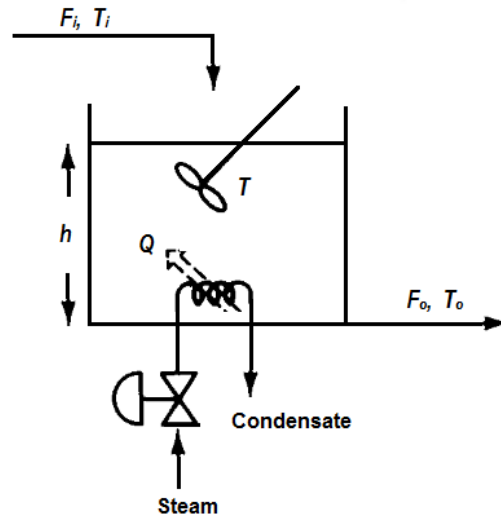

Figure 3: The stirred tank heater system
Consider the stirred tank heater system shown in **Figure 3**. A liquid enters the tank with a flow rate, F_i (ft³/min) and a temperature, T_i (°F) where it is heated with steam (flow rate F_{st} lb/min). F_o and T_o be the flow rate and temperature of the stream leaving the tank respectively.
- (a) Based on **Figure 3**, answer the following:
- i. State **two (2)** control objectives for the system. (2 marks)
- ii. Name **two (2)** external disturbances that will affect the operation of the system (2 marks)
- iii. Name **two (2)** available manipulated variables for the control of the tank in the presence of disturbances. (2 marks)
- (b) For the system in **Figure 3**, construct two different feedback control configurations that will satisfy the control objectives in the presence of disturbances. (4 marks)